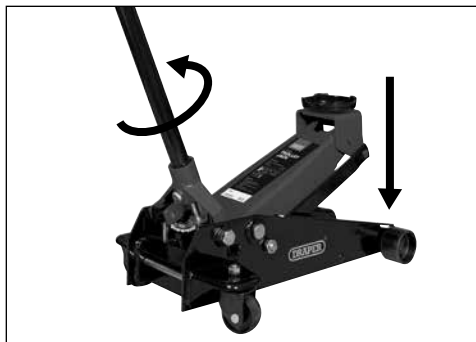

Fig. 3
- a. Twist the handle shaft anticlockwise to open the release valve (fig.3) and allow the lifting arm to drop to its lowest position.